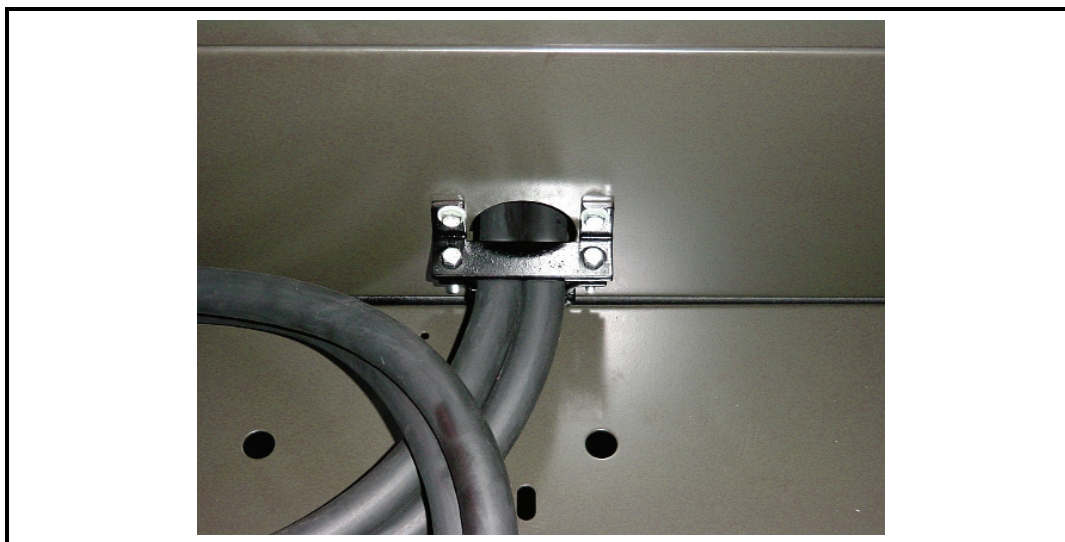

Figure 3: Lower Panel Assembly
2. Pass the free ends of the cable through the canopy via the supplied hole and bracket in the frame assembly (See Figure 3).